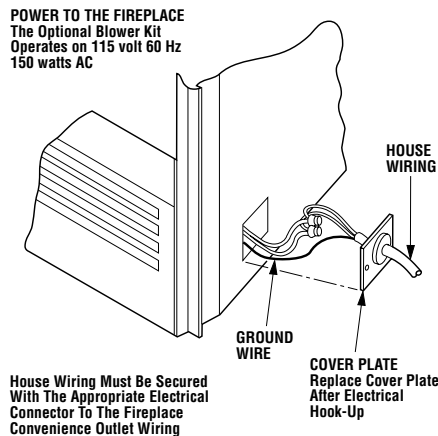

Figure 39
**THE FIREPLACE MUST BE WIRED TO THE HOUSE ELECTRICAL SYSTEM AT THE TIME OF INSTALLATION IN ORDER FOR THE OPTIONAL FANS TO OPERATE, (SEE FIGURES 39 AND 40).**